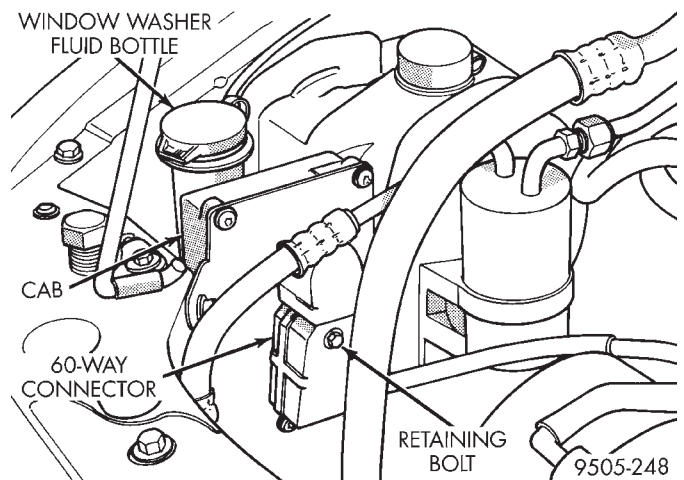
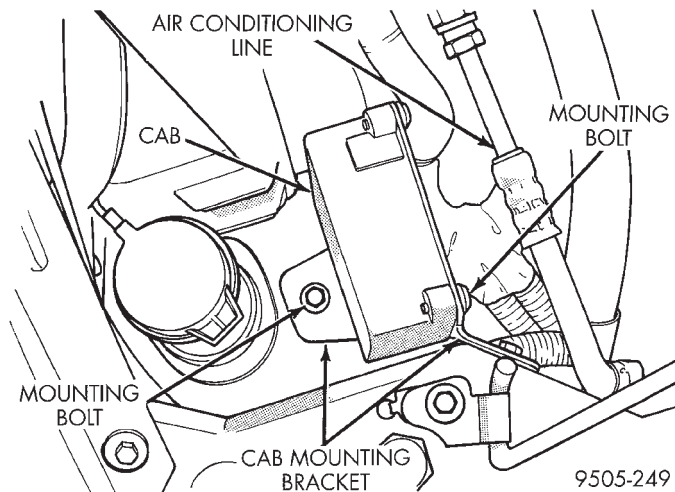

Fig. 29 CAB 60-Way Wiring Harness Connector
Fig. 30 CAB Bracket To Engine Compartment Mounting
(1) Turn vehicle ignition off.
(2) Disconnect the wiring harness 60 way connector (Fig. 29) from the Controller Antilock Brake Module (CAB). **VERIFY THAT THE VEHICLE IGNITION IS OFF BEFORE REMOVING THE 60 WAY CONNECTOR.**
(3) Remove the 2 bolts (Fig. 30) attaching the CAB mounting bracket to inner fender and front upper crossmember.
(1) Install the CAB and the mounting bracket assembled, on the right inner fender of the vehicle. (Fig. 30).
(2) Install the 2 bolts mounting the CAB bracket to the vehicle. Tighten both mounting bolts to a torque of 9 N·m (75 in. lbs.).
(3) Install 60-way wiring harness connector (Fig. 29) into the CAB 60-way connector by hand until seated as far as possible. Then use CAB connector retaining bolt (Fig. 29) to fully seat wiring harness connector into the CAB.
(4) Tighten the 60-way connector retaining bolt (Fig. 29) to a torque of 4 N·m (35 in. lbs.).